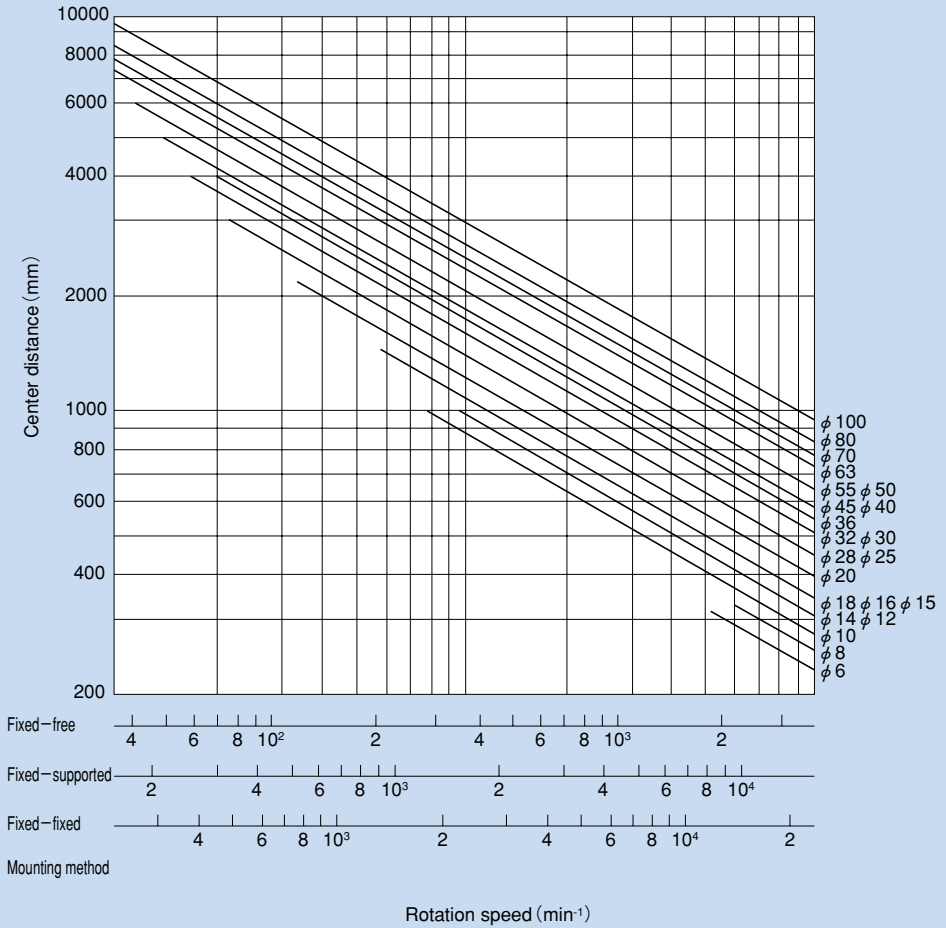

Fig. 6 Permissible Rotation Speed Diagram
Fig. 6 on page K-47 shows the relationship between the screw shaft diameter and a critical speed. If determining a critical speed by calculation, it can be obtained from the equation (8) below. Note that in this equation, a safety factor of 0.8 is multiplied to the result.